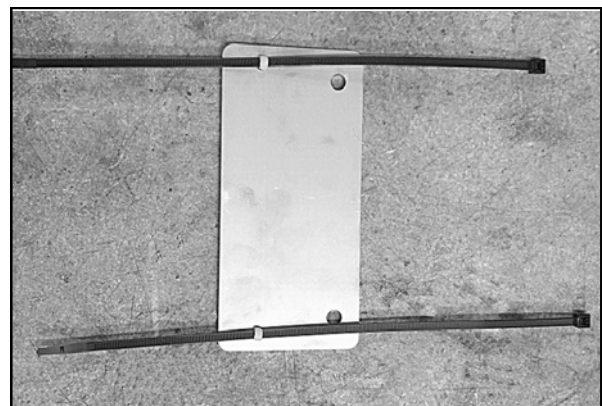

Fig. 6
3. Install two wire tie clips (15) and two wire ties (6) onto the shunt bracket (7). (Fig. 6)